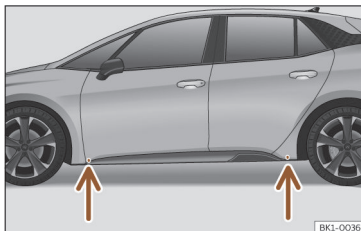

Fig. 185 Jack position points.
- Look on the strut for the mark of the jack support point (sunken area) closest to the wheel to be changed >>> **Fig. 185.**